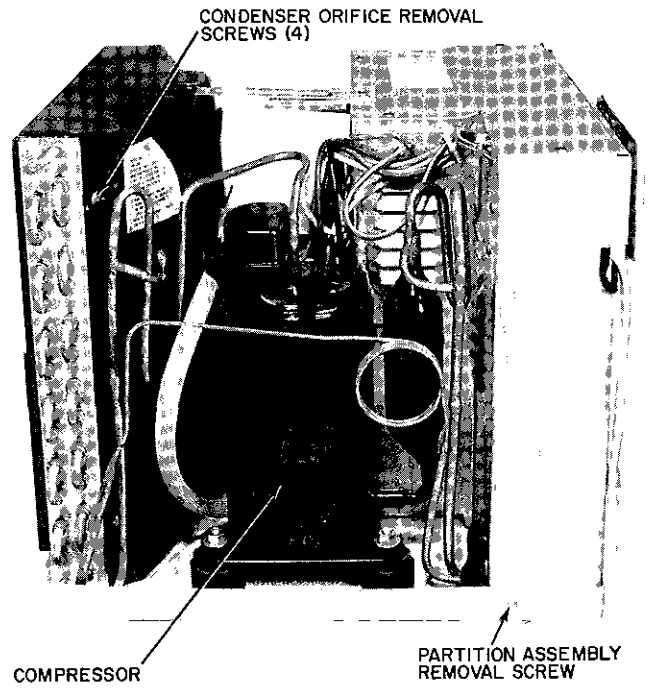

Fig. 18 — Partition Assembly Removal Screws
- e Remove screw on compressor side which holds partition assembly to basepan as shown in Fig. 18
- 16 **Compressor** — See compressor in Fig. 18. Before removing compressor refer to Service, General Notes in this publication, and Carrier Standard Service Techniques Manual, Chapters 1 and 2.